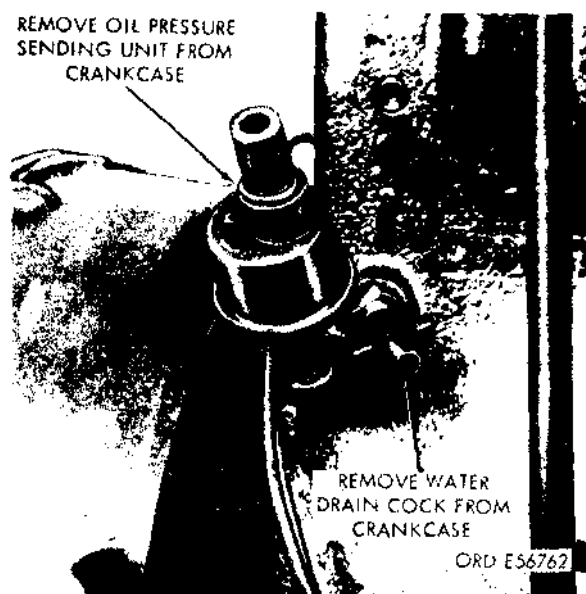

Figure 54.34. Oil pressure sending unit.
(4) Disconnect oil pressure sending unit by unscrewing from fitting in crankcase and removing oil pressure gage cable from sending unit (figure 54.34).